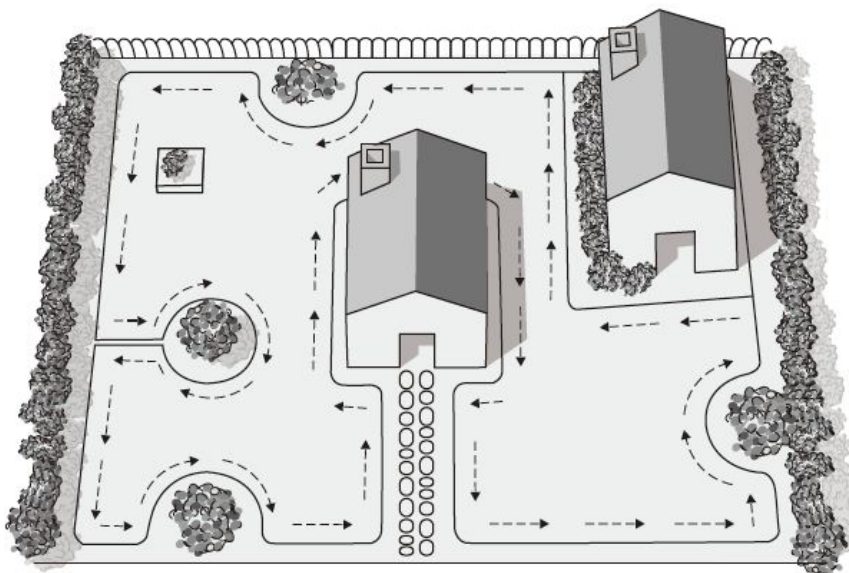

Fig.3A
- Use the Boundary wire to define areas inside the working area by creating islands around obstacles that cannot withstand a collision, for example, flower beds and fountains. Furthermore, fence out all shock-sensitive objects and garden ponds (Fig.3A).